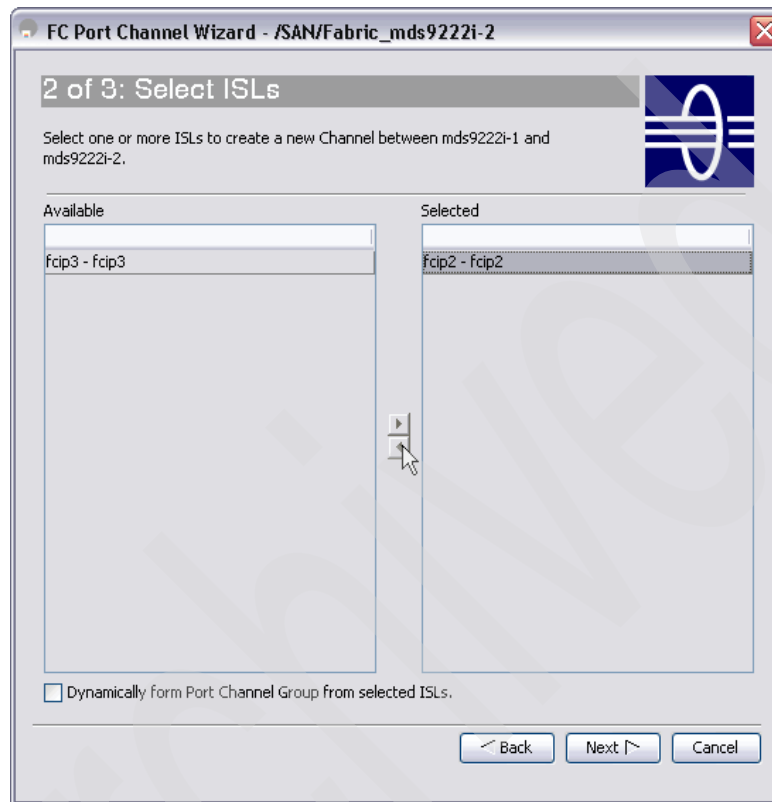

Figure 7-23 FM Port Channel Wizard panel 2 of 3
3. Highlight the links that will make up the PortChannel and, if necessary, using the arrow keys, move them from the Available to the Selected column (Figure 7-23). Click **Next** to proceed.